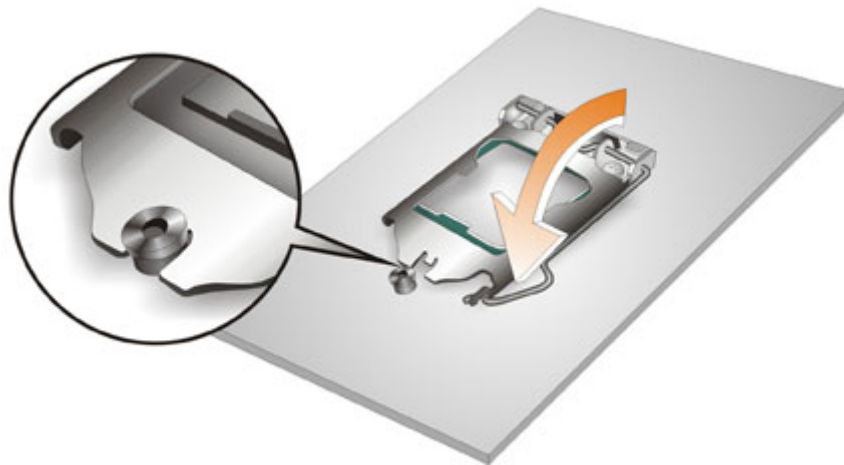

Figure 4-4: Close the Socket LGA1151
Step 8: **Close the CPU socket.** Close the load plate and pull the load lever back a little to have the load plate be able to secure to the knob. Engage the load lever by pushing it back to its original position (**Figure 4-4**). There will be some resistance, but will not require extreme pressure.